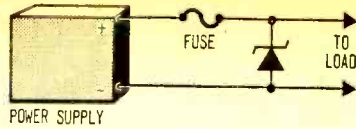

Fig. 8. Simple "crowbar" circuit protects parts from excess voltage with zener diode. If voltage soars, zener conducts heavily and blows the fuse.
*Crowbar* circuits get their name from their effect; when they detect a slight overload, they perform the electronic equivalent of dropping a crowbar across the supply lines. The simplest of these crowbar circuits—though it protects against too-high voltage, rather than against a current overload—is shown in Fig. 8.